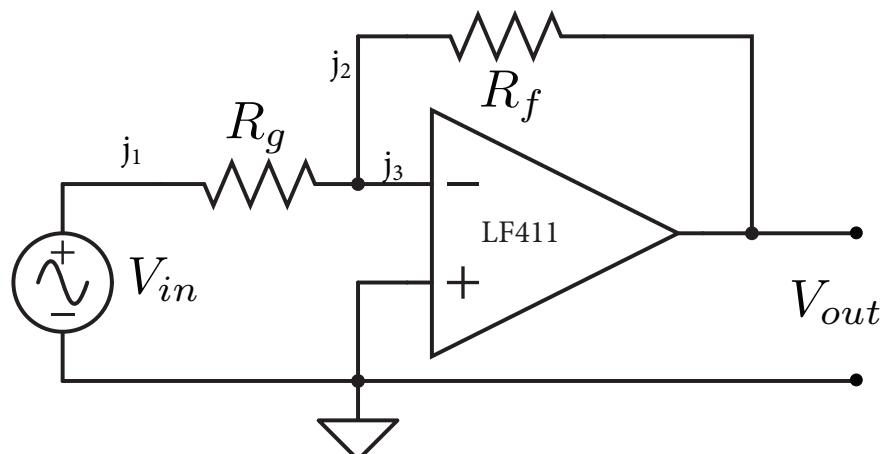

Figure 3: Inverting amplifier
- Golden rule # 1:** As long as there is a feedback resistor installed appropriately between the Negative input and the output, for example as shown in Fig. 3, the Op-Amp will adjust V_{out} so that $V_+ = V_-$.
A simple inverting amplifier circuit is shown in Fig. 3. Assuming the Op-Amp is treated as ideal, show that closed loop voltage gain:
Construct the circuit shown in Fig. 3. **Important: do not power up the protoboard until you have checked all connections twice! Make sure you and your partner agree that it is set up correctly!** In order not to short any of the pins of the Op-Amp together it must be installed in such a way that all 8 pins are in different columns (e.g. as shown in Fig. 4 where pins 1,2,3 and 4 are in different columns in the upper half of the protoboard and pins 5, 6, 7 and 8 are in different columns of the bottom half of the protoboard). Also note that the LF411 Op-Amp has a small circle imprinted on the top between pins pin 1 and 2 to indicate where the numbering starts and goes counter-clockwise. You can see this if you expand Fig. 4.